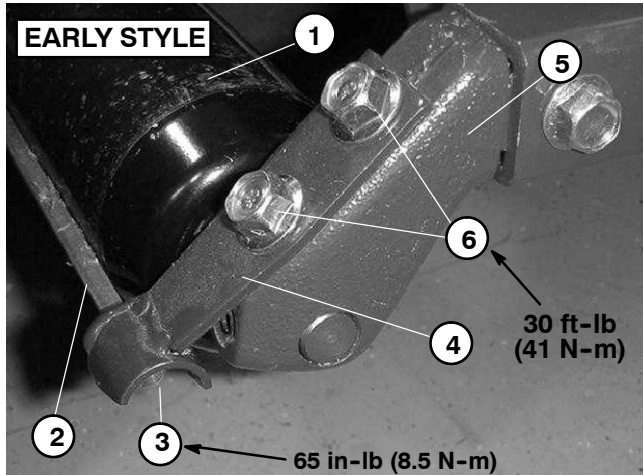
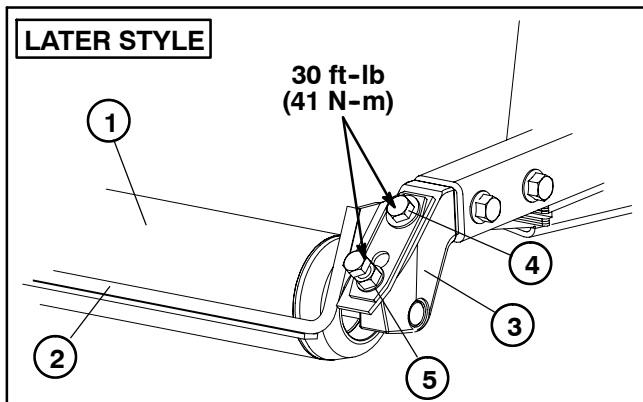

Figure 3
Figure 4
Two styles of roller scrapers have been available for the Groundsmaster 3500-D. Early models used a scraper rod that was fastened to brackets with lock nuts (Fig. 3). The scraper system used on later models has a one piece scraper component (Fig. 4). The adjustment method for both styles is similar.
1. On scraper rods equipped with lock nuts (Fig. 3), loosen lock nut securing one end of scraper rod to mounting bracket. For proper roller scraper adjustment, there should be approximately .005 to .020 inch (.13 to .51 mm) end play in loosened rod.
5. On scraper rods equipped with lock nuts (Fig. 3), tighten scraper rod lock nut to 65 in-lb (8.5 N-m).
**NOTE:** On scraper rods equipped with lock nuts (Fig. 3), if one side of scraper rod becomes worn, it can be rotated in the mounting brackets 180 degrees for a new edge.